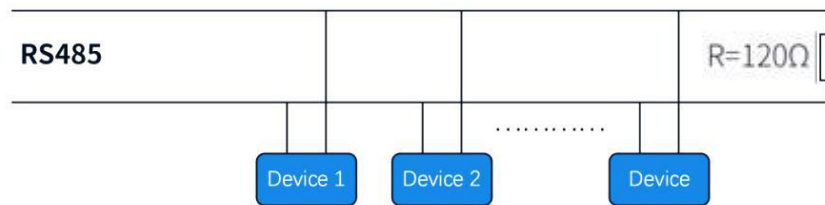

Figure 3-2
- When using RS485 protocol to connect multiple devices, please refer to the connection method in Figure 3-2 below, but the resistance value needs to be determined according to the number of devices connected by the user.